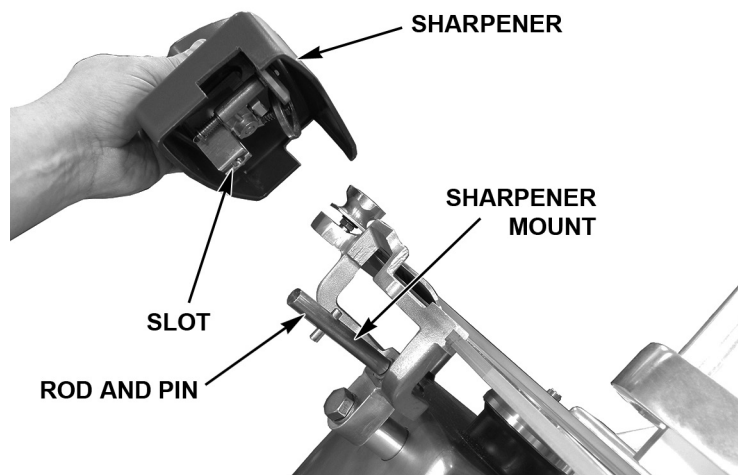

Fig. 5
- The Sharpener (Fig. 5) is mounted on top of the slicer.